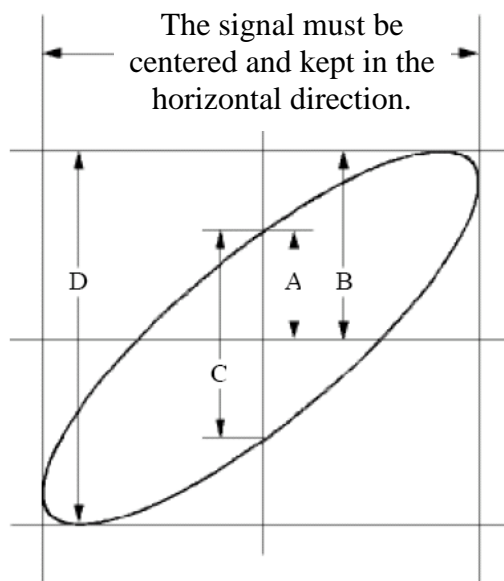

Fig.113 Lissajous Graph
3. Press **DISPLAY** to activate **DISP SET** menu, then F3 to select XY mode. Now the waveform is displayed as **Lissajou's curve**, adjust **VOLTS/DIV** and **VERTICAL POSITION** to get the best possible display, work out the phase shift as in Fig.113.